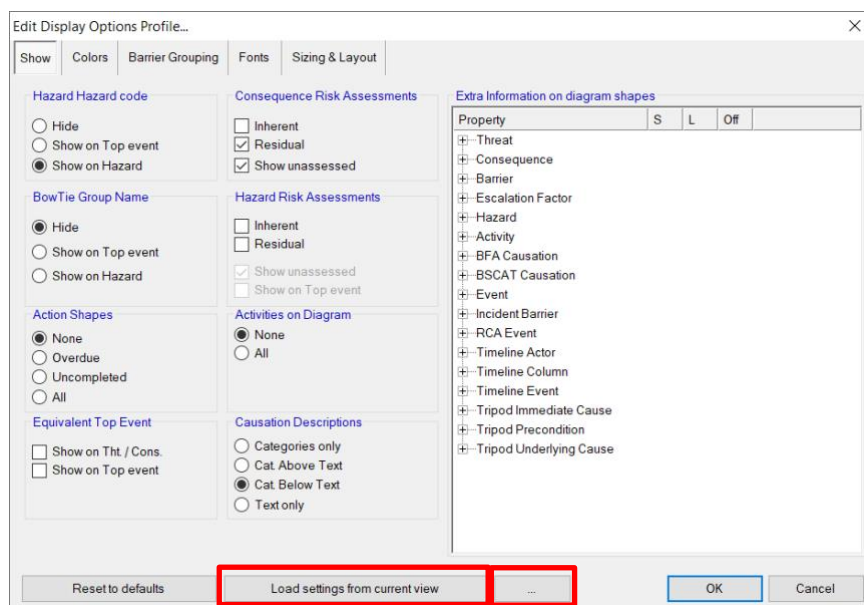

Figure 184 – Edit display profile
5. You can further customize the profile or optionally add an advanced filter through the “...” button (Figure 184). To learn more about how the filters work, see chapter 7.5.3.